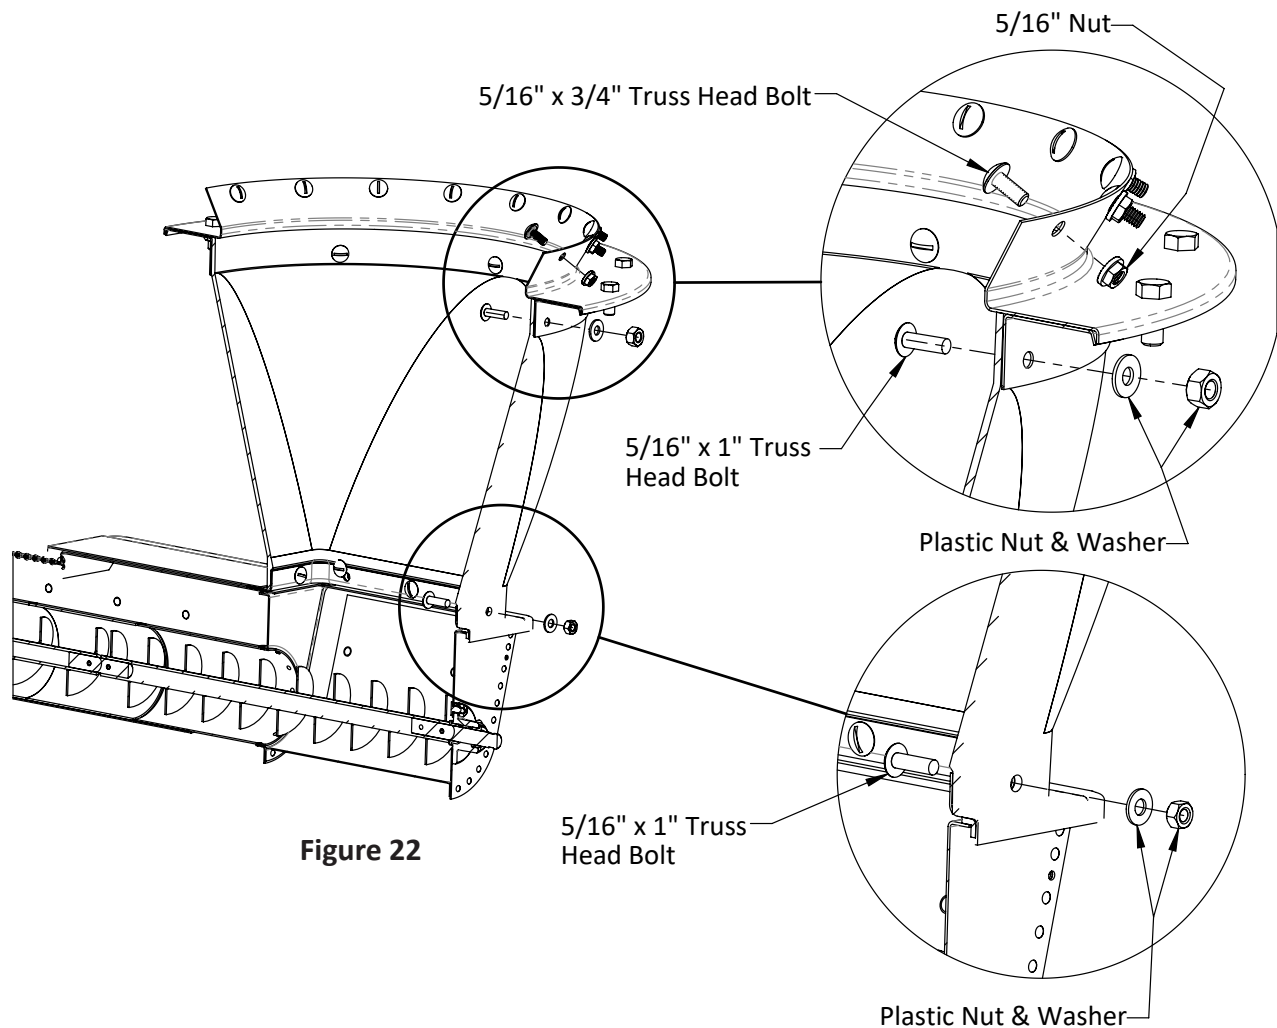

Figure 22
- It is very important to install the round head inside the bin so feed will flow over. This includes the hardware of the collar to the bin, the bottom collar to the boot transition, and the slide valve to the lower boot (Figure 22, detail views).
- Bolt the lower boot to the transfer plate using the hardware provided (Figure 22).